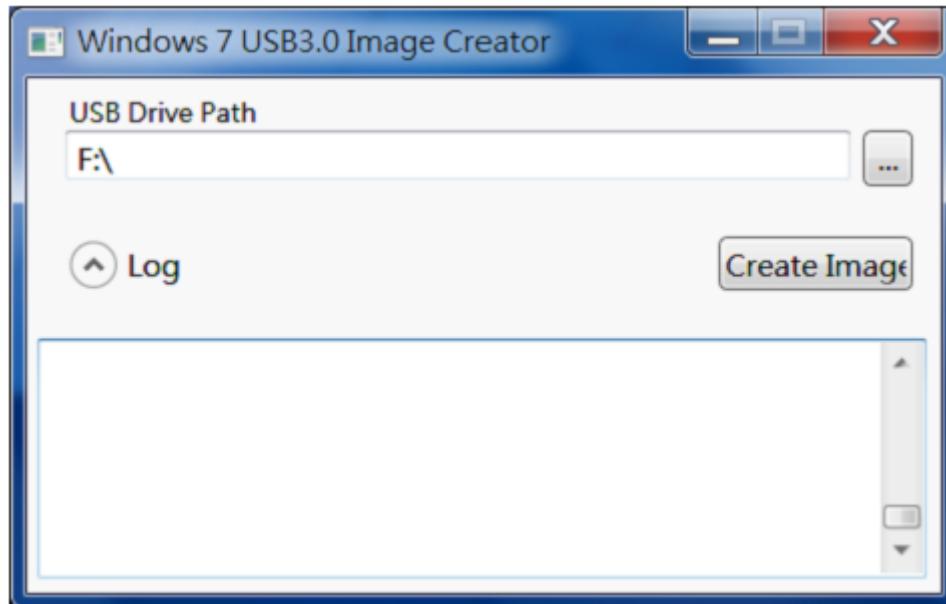

Figure 4-21: Windows 7 USB 3.0 Creator Utility
- Step 6:** The Windows 7 USB 3.0 Creator Utility screen appears (**Figure 4-21**). Click to browse to the root of the USB drive containing the Windows 7 image.